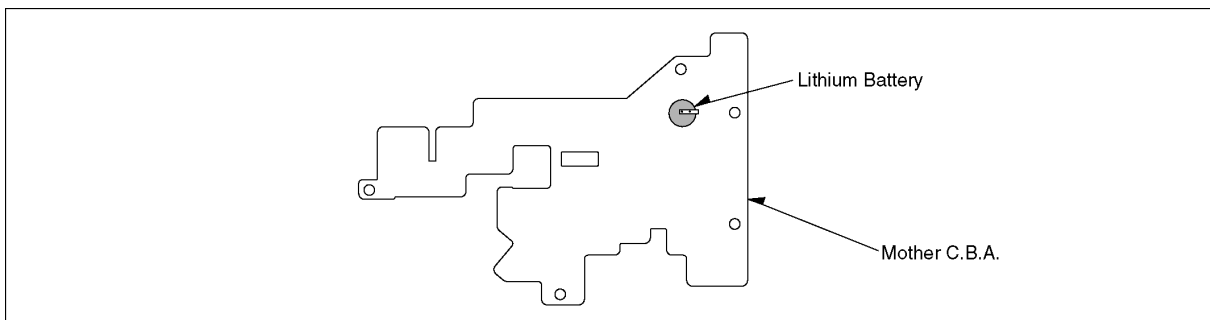

Fig. B1
2. Unsolder the Lithium Battery "ML920S" and then replace the new one. (See Fig. B1.)